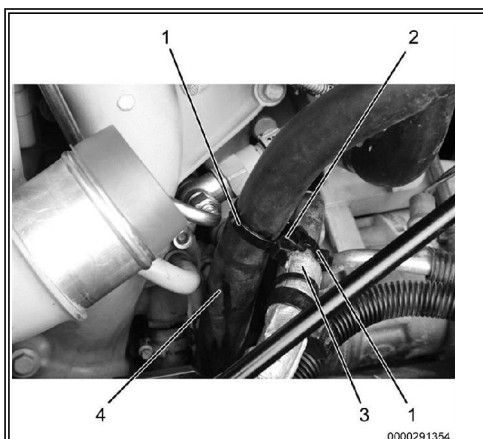

Figure 21: Surge Tank Hose.
1. Pull deaeration tank hose (Figure 21, Item 4) back to its original location towards deaeration tank until it clears turbocharger oil supply tube.
2. Using two tie straps (Figure 21, Item 1), and a swivel saddle (Figure 21, Item 2) secure deaeration tank hose to A/C suction line (Figure 21, Item 3).